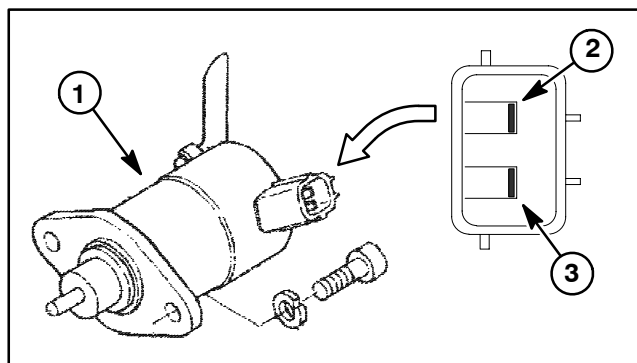

Figure 28
2. Using a digital multimeter, touch one test lead to the pull coil terminal and the other test lead to the run/stop solenoid frame (ground) (Fig. 28). The resistance of the pull coil should be less than 1 ohm (but not zero).
3. Using a digital multimeter, touch one test lead to the hold coil terminal and the other test lead to the fuel stop solenoid frame (ground) (Fig. 28). The resistance of the hold coil should be approximately 15.5 ohms.